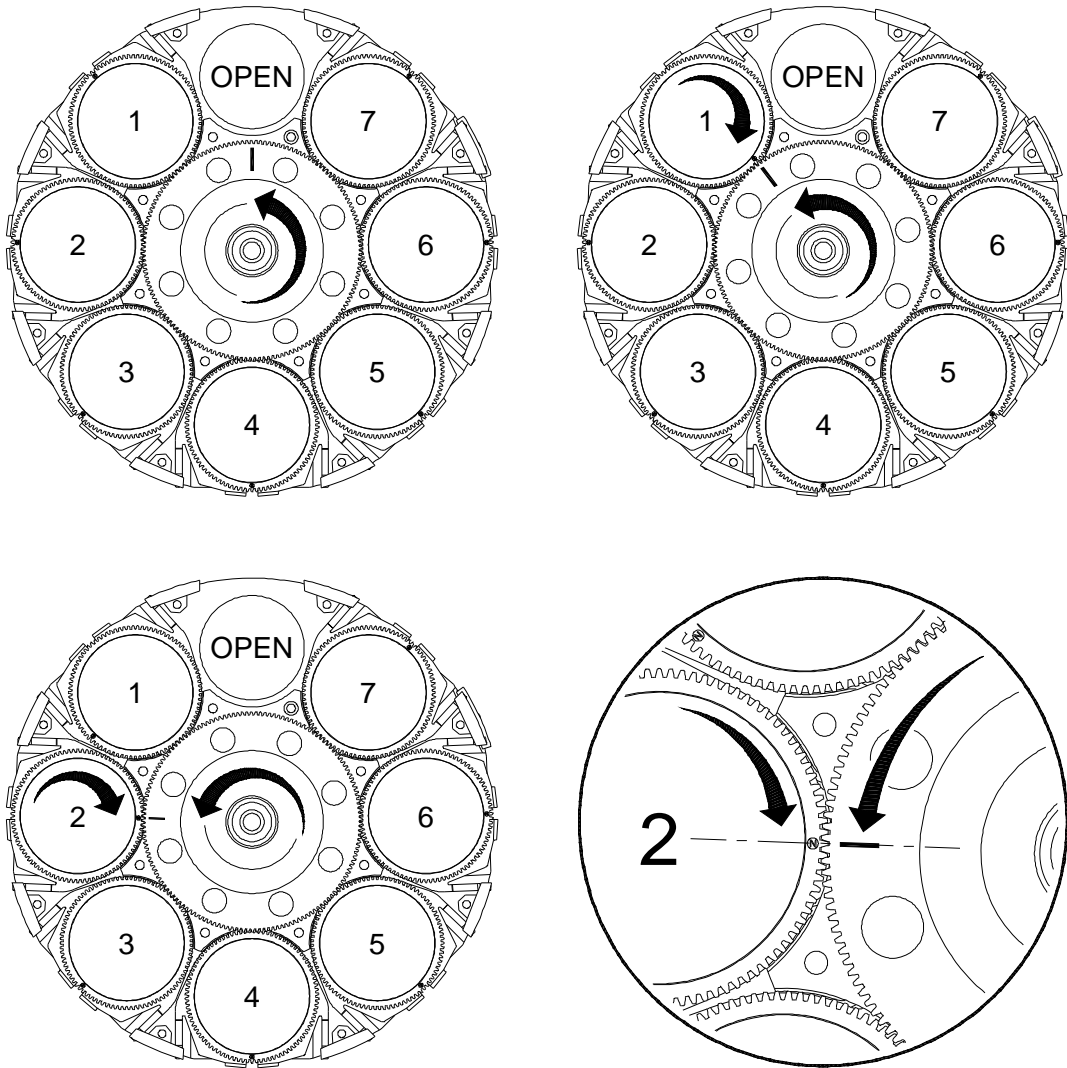

Figure 3-15: Gobo Positions and Alignment
Step 6. Noting proper orientation, insert new gobo into wheel. Ensure that the "tongue" of the gobo clip goes under the retaining plate (under the sun gear). Press and gently rotate the gobo bearing to help mesh the gobo gear to the sun gear. Refer to **Figure 3-15** on next page for an overview of gobo positions and alignment.